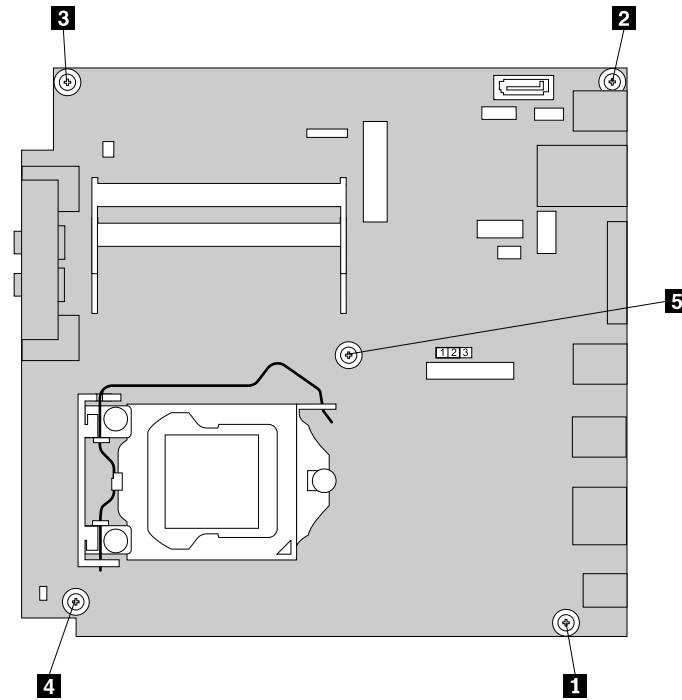

Figure 204. Removing the five screws that secure the system board
13. Install the new system board into the chassis by aligning the five mounting studs in the chassis with the corresponding holes in the new system board. Then, install the five screws to secure the system board by installing screw **5** to screw **1** as shown in Figure 204 “Removing the five screws that secure the system board” on page 245.